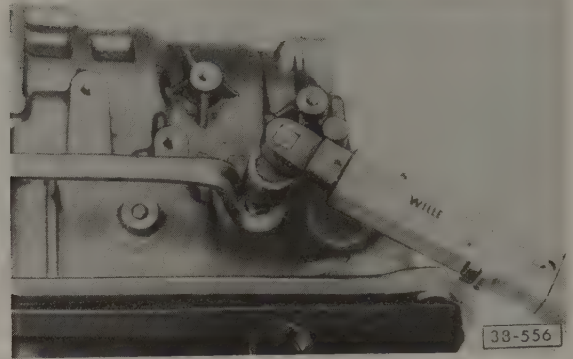

Fig. 4-10. 2nd gear brake band being adjusted.
- Loosen the locknut and temporarily torque the adjusting screw to 10 Nm (87 in. lb.), as shown in Fig. 4-10, to center the brake band.